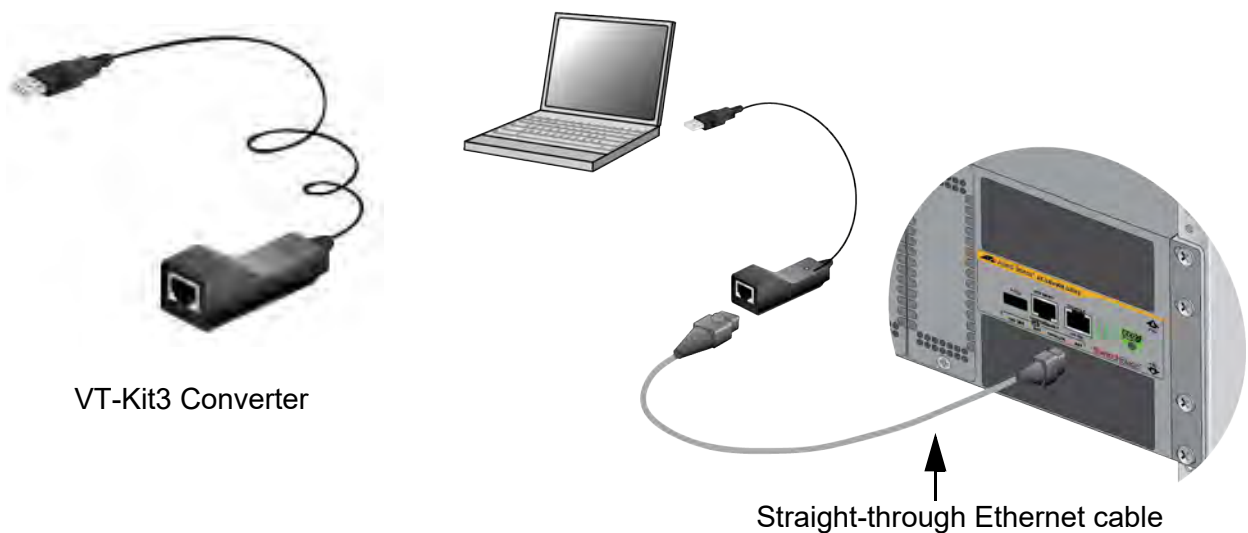

Figure 81. VT-Kit3 Converter
- ❑ If your device has a USB port, you will need a USB-to-Serial converter that is compatible with its operating system. An example is the VT-Kit3 converter from Allied Telesis. Refer to Figure 81. The converter has two connectors. One is a standard USB 3.0 connector that connects to the USB port on your computer or laptop. The other is a nine-pin female RJ-45 connector that connects to the Console port on the switch with a standard, straight-through Ethernet cable.
1. Power on the switch by connecting the AC power cord to the power supply on the rear panel and to an AC power source. If the switch has two power supplies, you need to power on only one of them for this procedure. Refer to “Powering On SBxPWRSYS2 (AC) Power Supplies” on page 153.
3. Connect your terminal, computer, or laptop to the Console port on the switch with your management cable. For an example using the VT-Kit3 management cable from Allied Telesis, refer to Figure 81 on page 156.